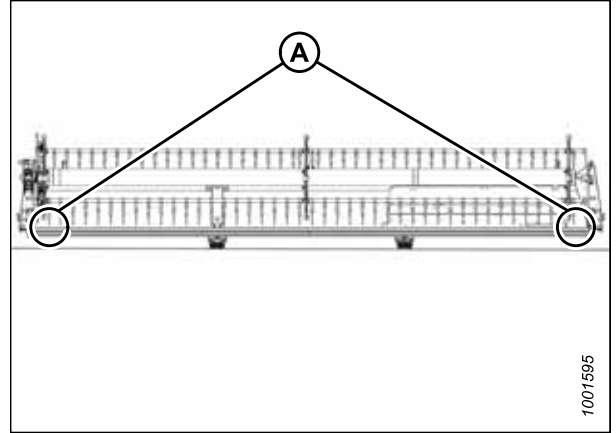

Figure 4.264: FlexDraper® Measurement Locations – Single Reel
- Single-reel headers: Figure 4.264, page 431